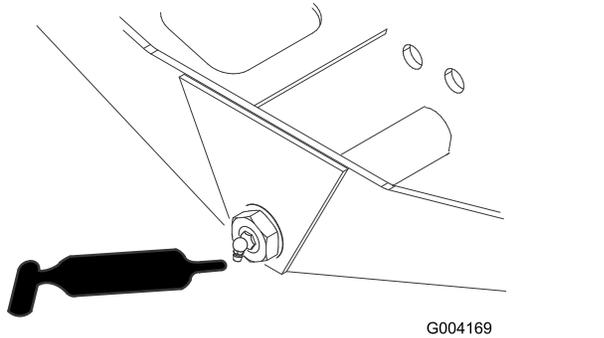

Figure 75
- Axle-steering pivot (1) (Figure 75)